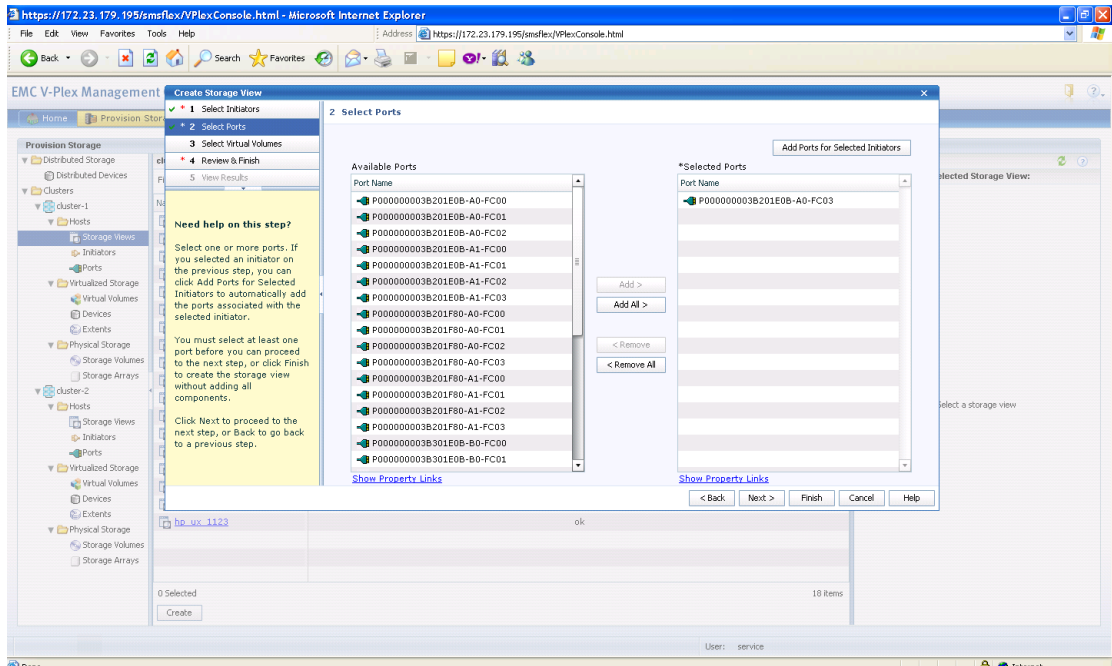

Figure 77 Add ports to storage view
3. Adding ports to the storage view, as shown in Figure 77.